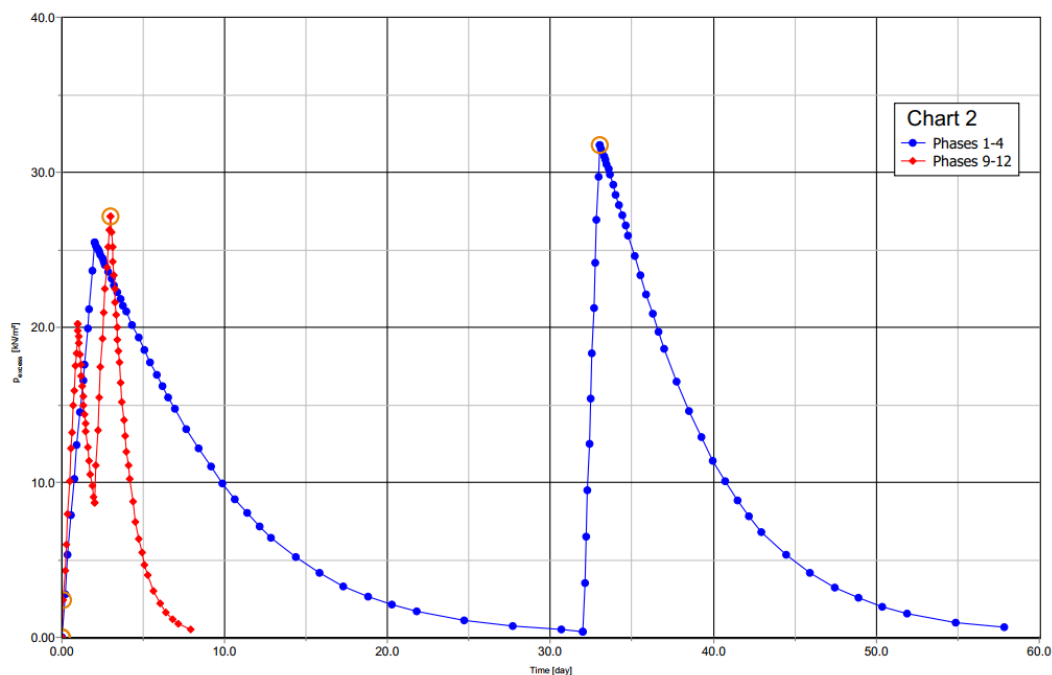

Figure 103: Effect of drains
11. Click **OK** to close the **Settings** window. Figure 103 (on page 129) gives a clear view of the effect of drains in the time required for the excess pore pressures to dissipate.